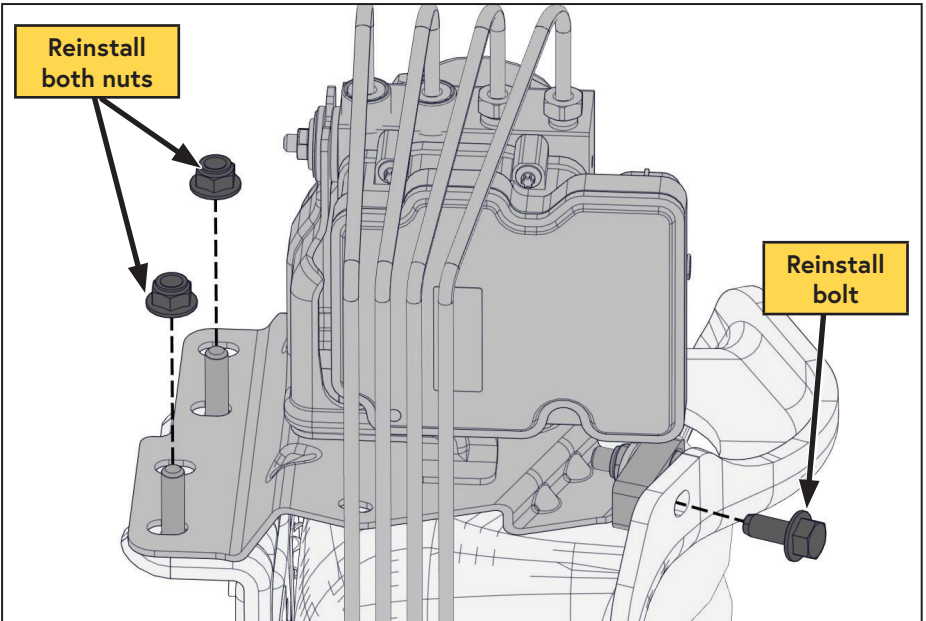

Figure 23 — Relocating the HCU
- Using the OEM fasteners retained earlier, secure the HCU base bracket to the shock tower (Figure 23).